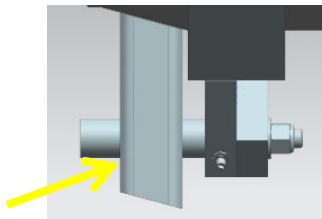

Figure 6: Clamp Ring Pivot Plate Weld Locations
- G. Grind weld on clamp pivot plate while preserving the clamp pivot plate base material, removing the double fillet weld, see Figure 6.